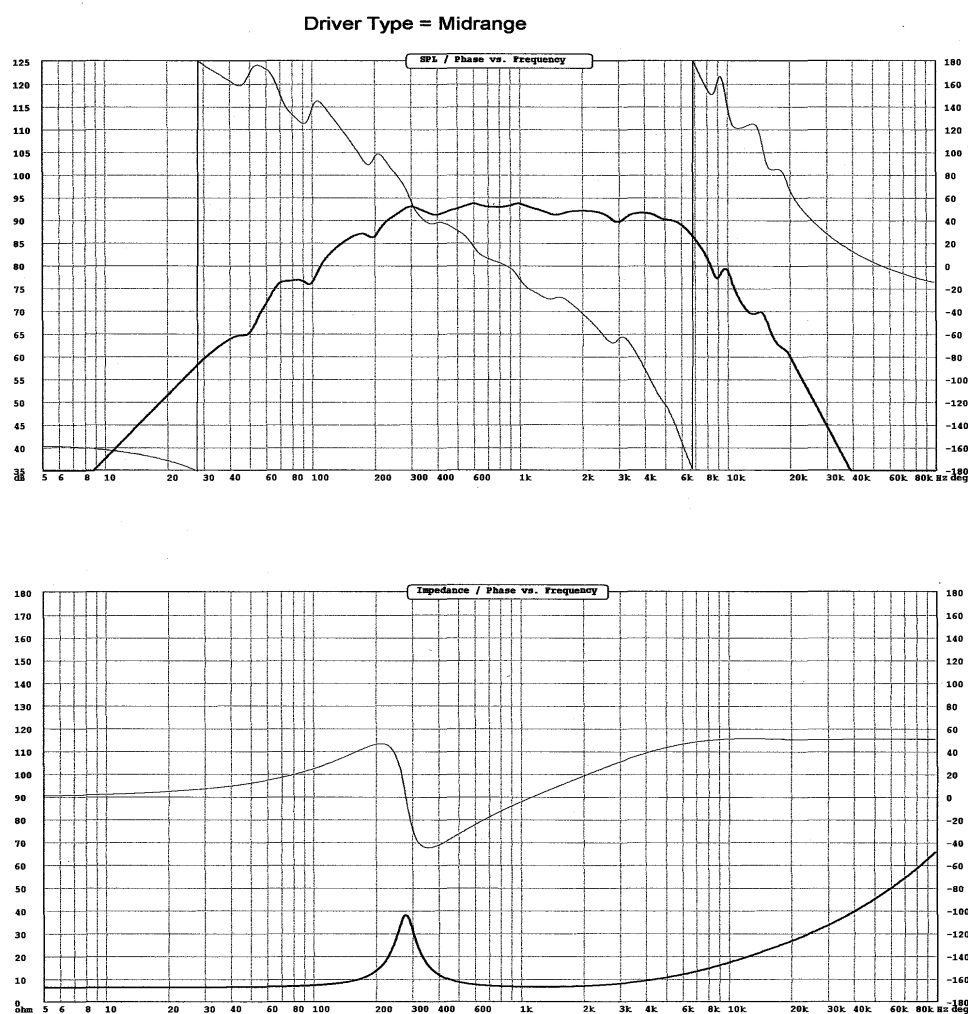

Figure 1.9a. SPL and Zin printout examples.
1. Print Driver – Selecting this option prints ALL parameters listed on Figure 1.9a,b, SPL/Phase curves and Zin/Phase curves. You may expect 2 pages of printouts.
2. Print Project Drivers - Selecting this option prints ALL parameters listed on Figure 1.9a,b, SPL/Phase curves and Zin/Phase curves for ALL 5 drivers. You may expect 10 pages of printouts.